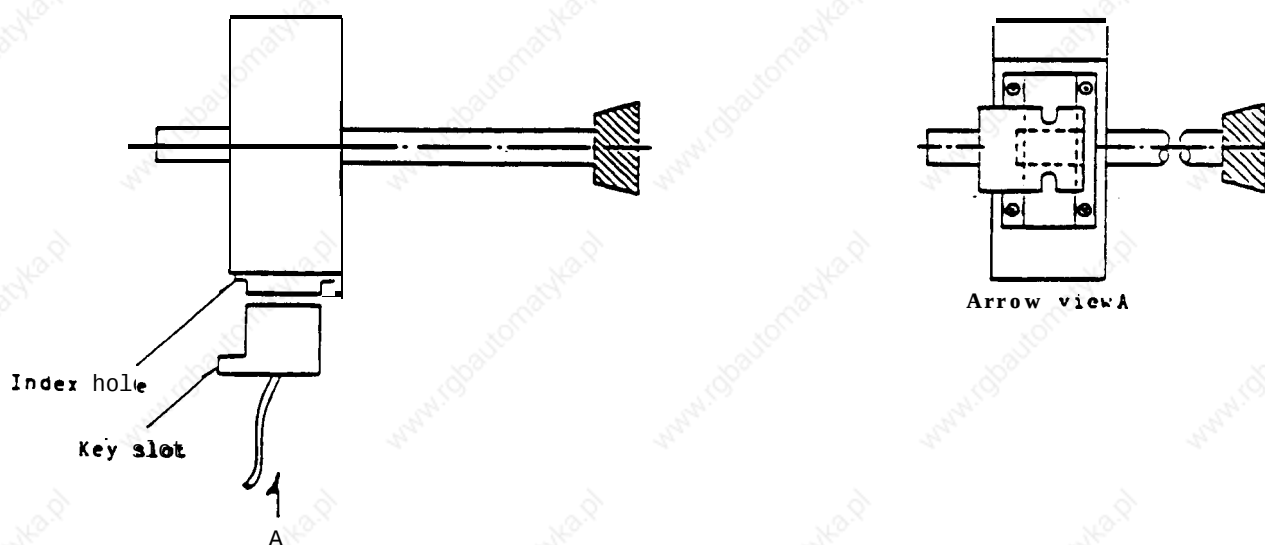
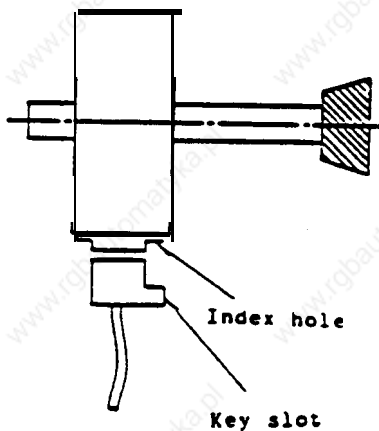

Fig. 6.3 Mounting onto the circumference of a rotating body
Fig. 6.6
The mounting directions for the magnet and detection head are specified as shown in Figs. 6.3, 4 and 5.
As shown in Fig. 6.3, mount so that the key slot and index hole point to the non-load side of the spindle.
- (1) Orientation will remain normal even if the magnet and detector are mounted, as shown in Fig. 6.6, in the opposite way to that shown in Figs. 6.3, 4 and 5.
- (1) Do not bring strong magnetic objects near the magnet.
- (2) Take care not to subject the magnet to shocks.
- (3) Use M4 screws to secure the magnet rigidly to the spindle.
- (4) Provide the rotational balance of the whole spindle with the magnet mounted.
- (5) Bring the index hole in the center of the magnet **to the** center of the mounting disc and align its direction with that shown in Figs. 6.3, 4 **and** 5.
- (6) **Make** sure that the surroundings are clean so that metal chips and **dust** do not adhere to the magnet and thereby cause errors.
- (7) Paint over the mounting screws to lock them in position so as to avoid any looseness.
- (8) When the **magnet** is to be mounted onto a polished disc, **the** disc may have become magnetized. Steps should therefore be taken to demagnetize it.
- (9) The diameter of the disc onto which the magnet is mounted should be not less than 80 mm and not more than 120 mm. It may be larger if the spindle speed is low.
- (10) When the spindle onto which the magnet is mounted rotates at a speed **higher than 6,000 rpm**, the magnet must be replaced with a high-speed version (which can be used up to 10,000 rpm).
- (1) Ensure that the key slot on the detection head and the index hole in the magnet are pointing in the same direction.
- (2) Mount the sensor so that the center line on the end of the head and the center of the magnet are aligned (see Figs. 6-3, 4 and 5).
- (3) Refer to Table 1 for the size of the gap between the magnet and detector when the mounting method in Fig. 6.3 is adopted. Refer to Table 2 when the methods in Fig. 6.4 or 6.5 is employed.
- (4) Although the pre-amplifier connector is oil-proof, it should be mounted where the chances for oil to come into contact with it are minimal.
- (5) Lay the cable to the controller from the pre-amplifier at a distance from the power supply circuitry wires so that it is isolated from them.
- (6) First check the connector connections and ensure that the connectors have been inserted properly into the receptacles, and then tighten up their lock screws.